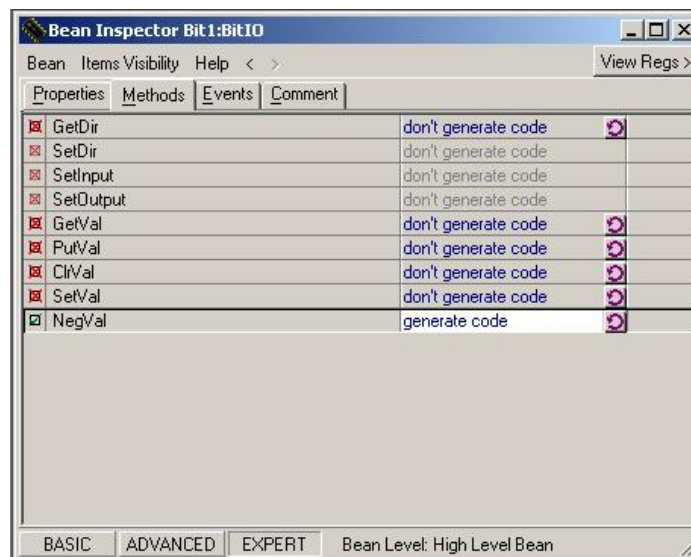

Figure 23. Bean Inspector Window - BitIO Methods Configuration on LED_Blink Project
- This project uses the NegVal method from the BitIO bean to invert the LED state. It is not generated by default. To configure it, go to the Methods tab in the Bean Inspector window and click the round arrow button (⊗) for the NegVal method. Figure 23 shows the Methods tab with the changes proposed for the LED Blink project.